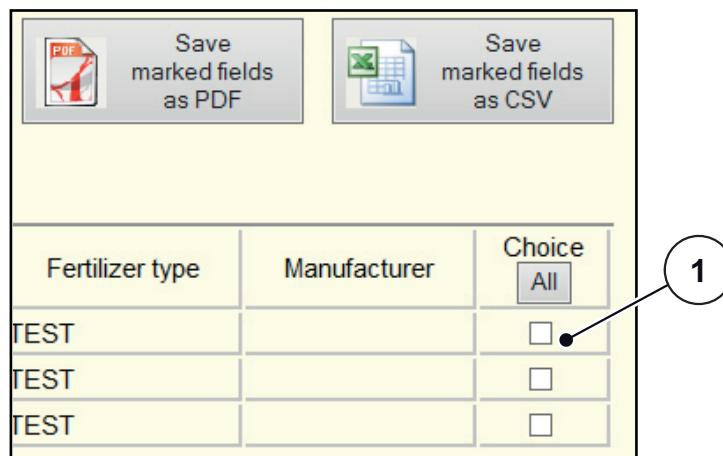

Figure 4.3: Mark field data files
- Press the **None** button in order to unselect all field data files. See figure 4.3.